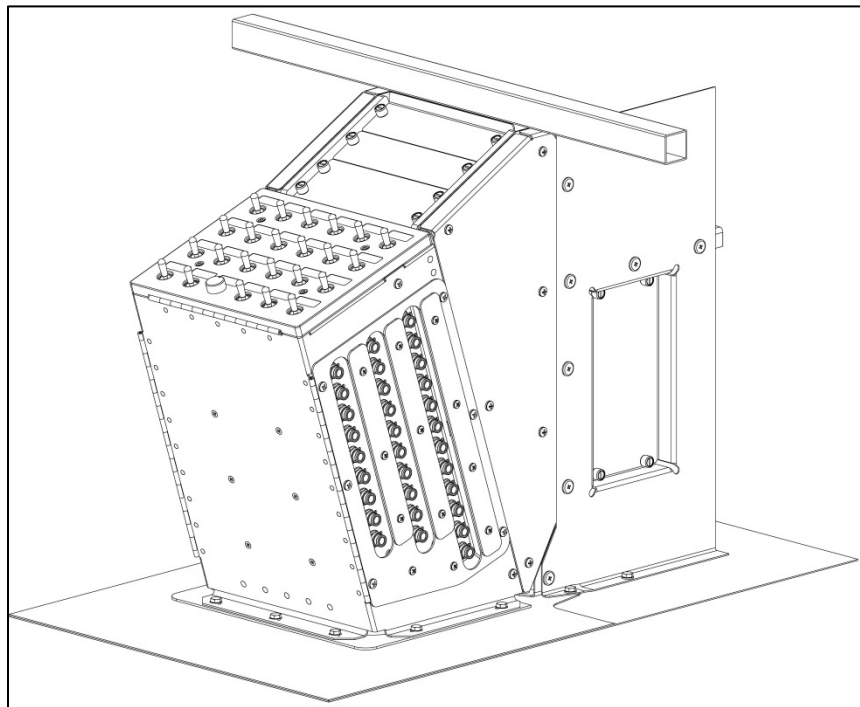

FIGURE 3: P122 CONSOLE INSTALLED
- 4.4.2 Refer to Figure 3 to Figure 6 for installing the P122 Console.
Parts List for FIGURE 3 TO FIGURE 6